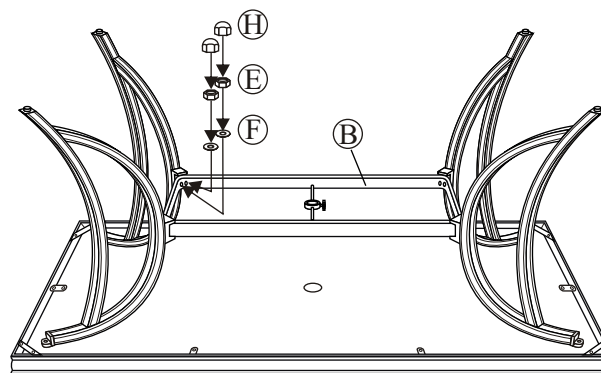

Fig.2
- 2 Working from the front of the chair, add a washer to a 1/4"x45 mm bolt. From the underside of the front seat support bar, insert the bolt with washer through one of the holes in the seat support bar, into the fixed nut inside the lower front portion of the seat base as shown in **Fig.2**. **Hand tighten 3-4 revolutions only. Do not tighten Completely.** Repeat for opposite side of chair.
Step3: Attach a leg to the leg connector bracket by carefully guiding the bolts already in place on the table legs (each leg has two bolts) through the holes in the leg connector bracket. Add a washer and a nut to the end of each bolt as shown in **Fig.2**. **Hand tighten only. Do not tighten completely.** Repeat on the other three legs.